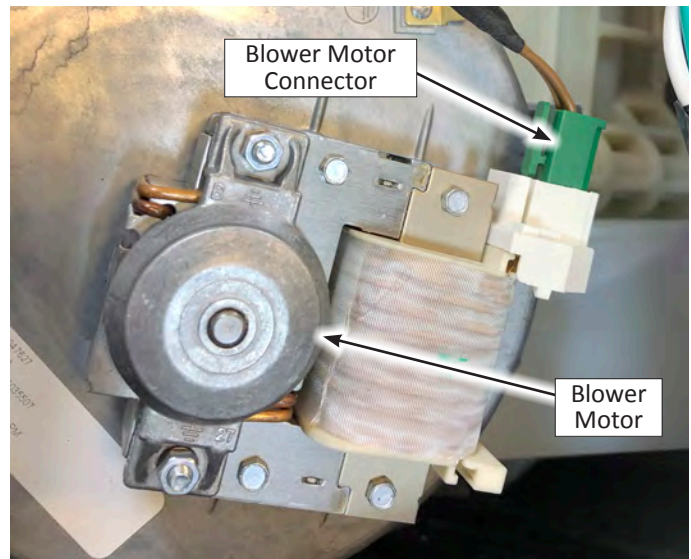

Figure 1 - Dry Blower Motor
6. With an ohmmeter, measure the resistance across the two blower motor terminals (see Figure 1). Resistance should be **9.0–10.6 Ω**.